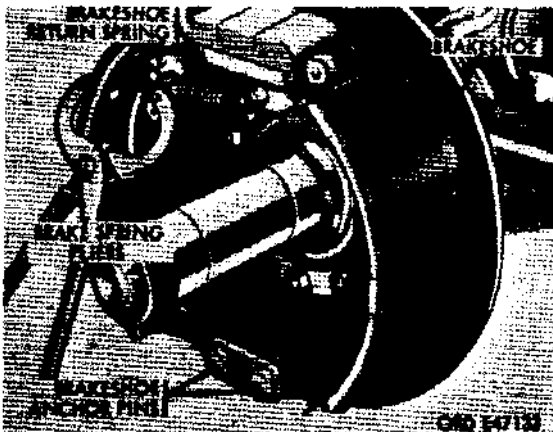
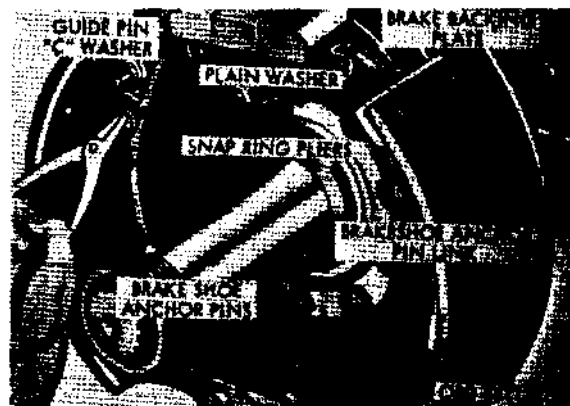

Figure 343. Removing brakeshoe return spring
Figure 344. Removing brakeshoe C washers
- (3) Remove brakeshoes. Disconnect brakeshoe return spring with brake spring pliers (fig. 343). Remove guide pin C washers and plain washers with a pair of snap ring pliers (fig. 344). Remove brakeshoe anchor pin locknuts which are located at the lower rear end of brake backing plate. Remove the plain washer from each guide pin. Lift the brakeshoes, brakeshoe anchor pins, and brakeshoe anchor pin link